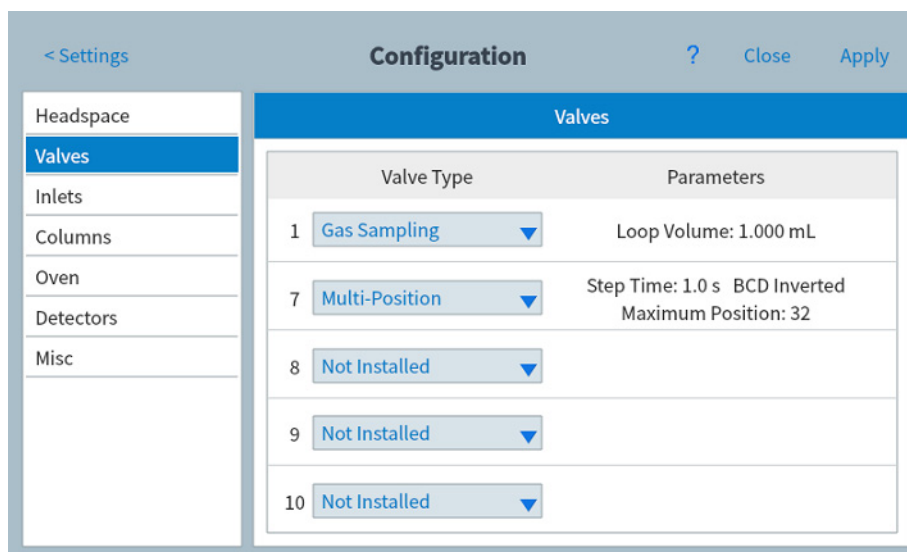

Figure 57 Valves page
- 3 Press the **Valves** device type from the list on the left side of the screen. The properties for the selected device type appear on the right side of the screen. See Figure 57.